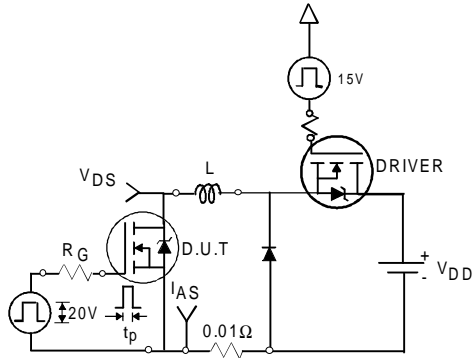

Fig 12a. Unclamped Inductive Test Circuit
- ③ $I_{SD} \leq 78A, di/dt \leq 320A/\mu s, V_{DD} \leq V_{(BR)DSS}, T_J \leq 175^\circ\text{C}$
- ④ Pulse width $\leq 400\mu s$; duty cycle $\leq 2\%$.
- ⑤ $C_{oss \text{ eff.}}$ is a fixed capacitance that gives the same charging time as C_{oss} while V_{DS} is rising from 0 to 80% V_{DSS} .
- ⑥ Calculated continuous current based on maximum allowable junction temperature. Package limitation current is 75A.
- ⑦ Limited by T_{Jmax} , see Fig.12a, 12b, 15, 16 for typical repetitive avalanche performance.
- ⑧ Uses IRF1407 data and test conditions.
3. Equation below based on circuit and waveforms shown in Figures 12a, 12b.